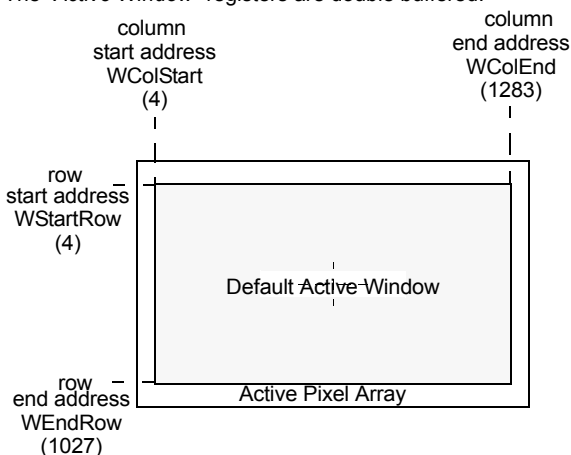

Figure 14. Default Active Window
- By default the "Active Window" is an optically centered with a size of 1280 columns by 1024 rows as shown in figure 14.